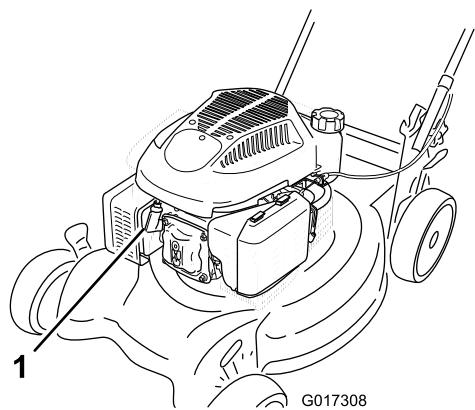

Figure 18
- Disconnect the spark plug wire from the spark plug (Figure 18) before performing any maintenance procedure.